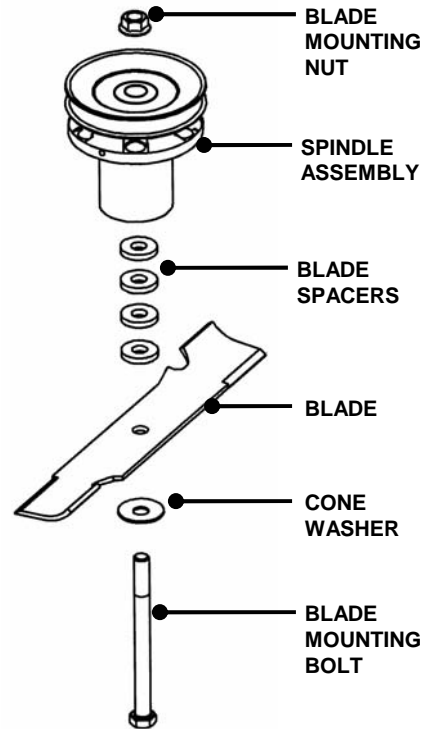

FIGURE 5.15
1. Remove blade. See Figure 5.15.
5. Reinstall blade. See Figure 5.15. Torque blade mounting bolts to recommended range of 70 to 80 ft. lbs.
13. Reinstall blade bolt, washer, blade and four spacers. See Figure 5.15